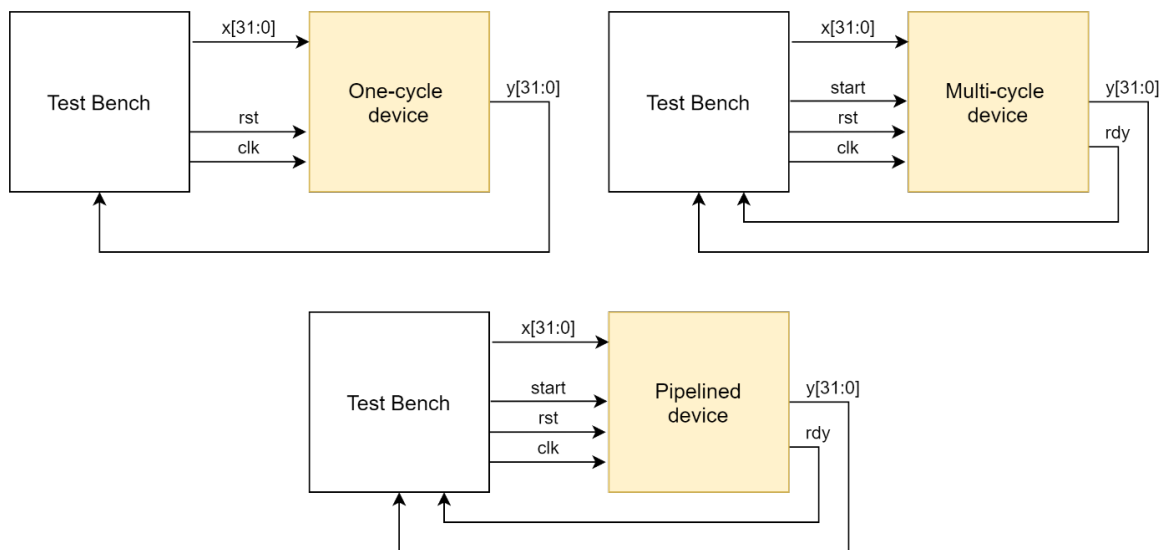

Figure 1 The developing systems
1. Develop three types of implementations for device: one-cycle, multi-cycle, pipelined. The device should perform the function according to the variant. The signal interface is presented in Figure 1 and contents such signals as: